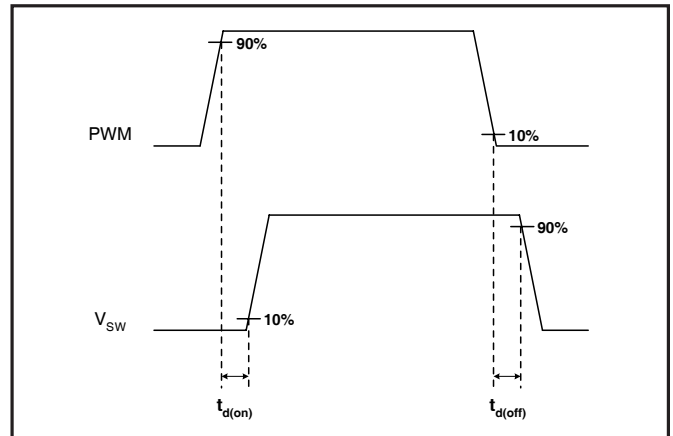

Fig. 9: Timing Diagram
② Not associated with the rise and fall times. Does not affect Power Loss (see Fig. 9).